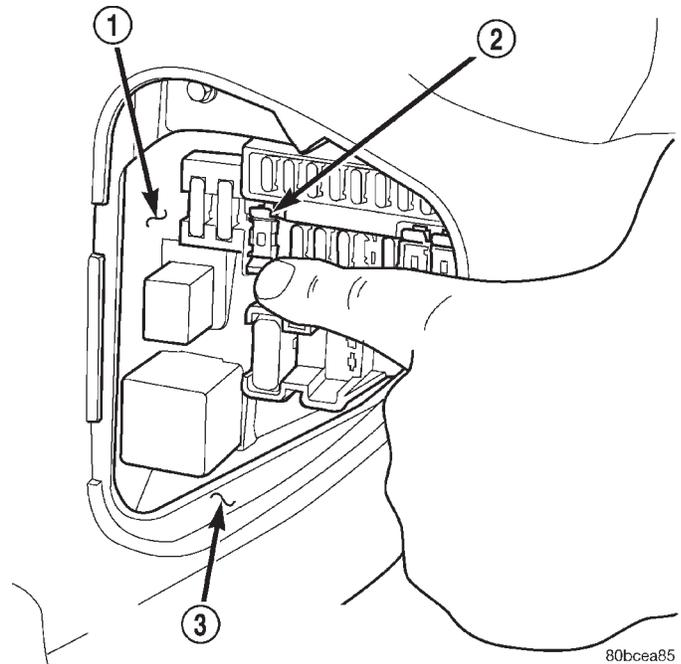

Fig. 3 Ignition-Off Draw Fuse - Typical
All vehicles are equipped with an Ignition-Off Draw (IOD) fuse (Fig. 3) that is disconnected within the Junction Block (JB) when the vehicle is shipped from the factory. Dealer personnel are to reconnect the IOD fuse in the JB as part of the preparation procedures performed just prior to new vehicle delivery.